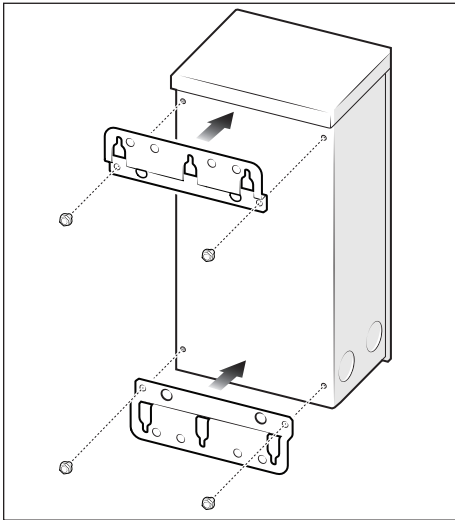

Figure 7. Install Brackets
2. Rotate and secure upper and lower brackets with mounting screws to the same mounting holes, see *Figure 7*.